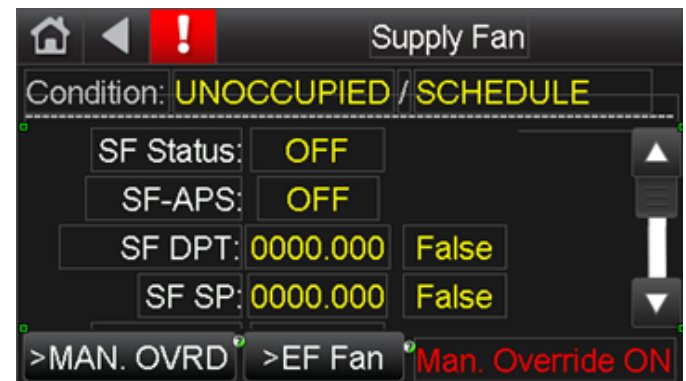

Fig. 9 — Supply Fan Status Screen
The Supply Fan Status screen shows the status and parameters for the supply fan (SF) and the clogged filter indicator (CFI). See Fig. 9.